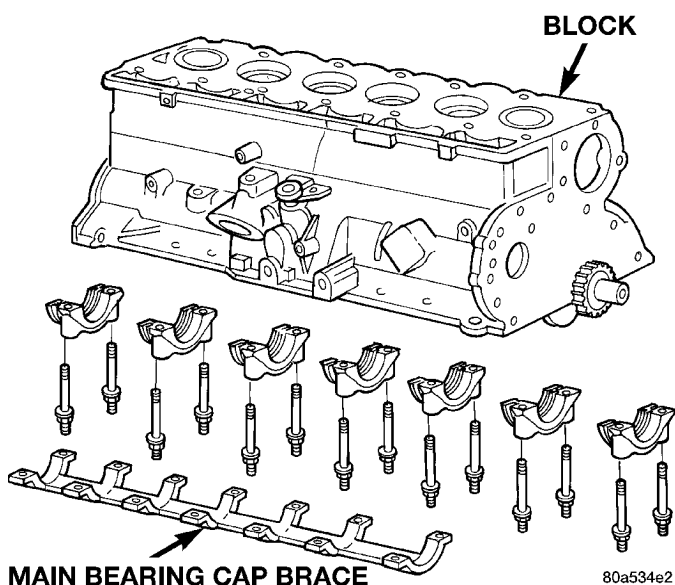

Fig. 50 Main Bearing Caps and Brace.
- (1) Disconnect negative cable from battery.
- (2) Remove the spark plugs.
- (3) Raise the vehicle.
- (4) Remove the oil pan and oil pump.
- (5) Remove main bearing cap brace (Fig. 50).